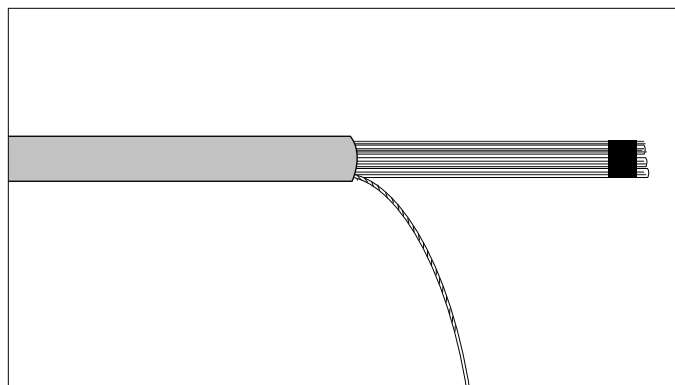

Figure 11 — Exposing the rip cord
Step 13: Carefully separate the rip cord from the aramid yarn and other components of the cable core. Place a wrap of tape around the cable core to hold these components in place (Figure 11).